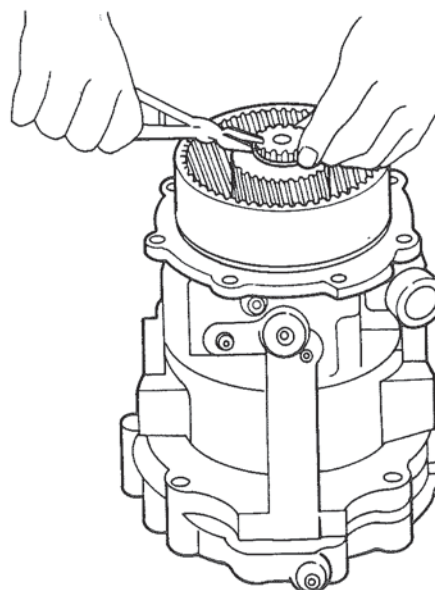

Figure 21. Installing Snap Ring.
2. Install the snap ring firmly into the groove. Figure 21.